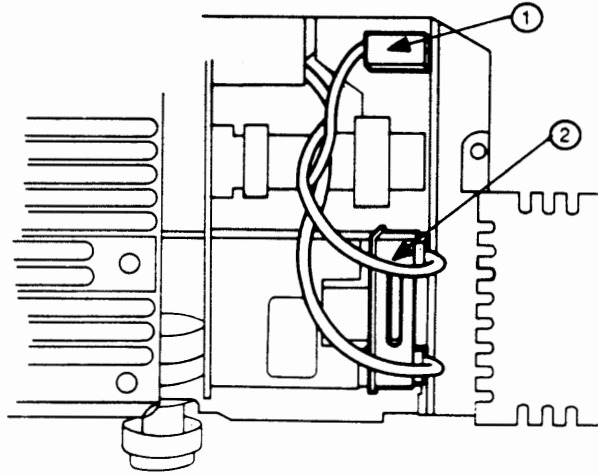

FIGURE 2-16: HIGH VOLTAGE POWER SUPPLY
5. Disconnect the two connectors with thick red wires (Figure 2-16, #1 and #2) from the high voltage power supply—one connector has two wires, the other has one. Use a screwdriver to help pry off the connectors.